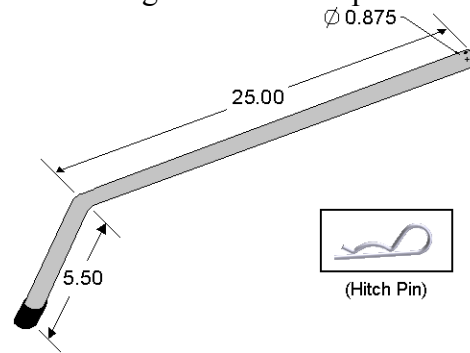

Figure 3 – Illustrated view of Retaining Rod & Unattached Hitch Pin for Ramp Stand Receiver
- (Qty:4) 25"-long, 7/8"-dia. aluminum Retaining Rods w/ hitch pins for Ramp Stand receivers, depicted in Fig. 3: